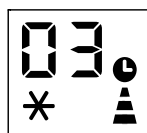

Fig. 6
- Press several times until the corresponding time is displayed. Wait about 5 seconds, the timer will be active. then only the ⏰ symbol is displayed on screen. (fig 6)